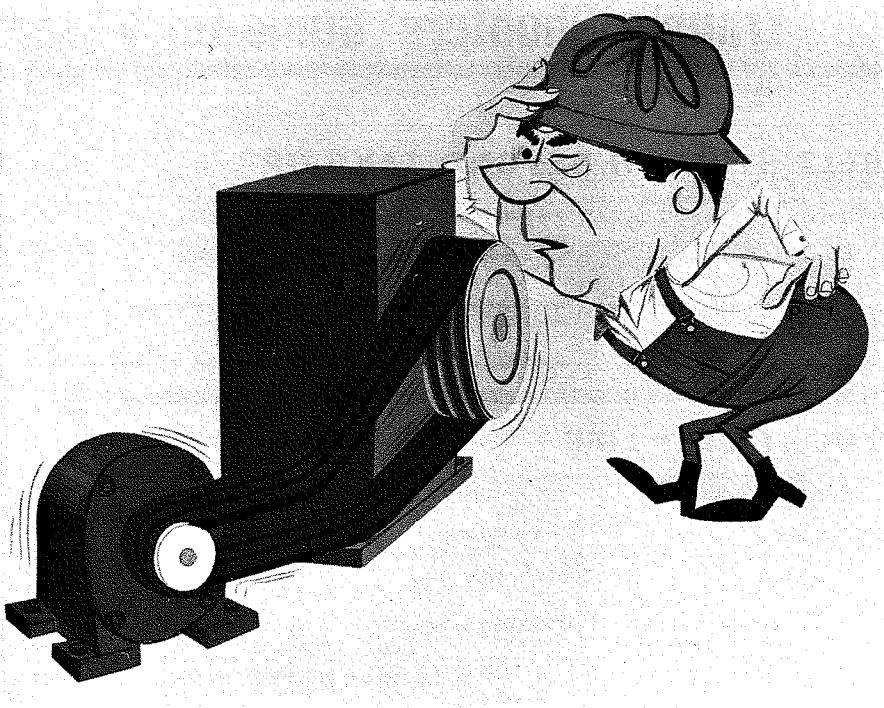

FIG. 3-19 (Gates Rubber Company)
7. Exact alignment of pulleys or sheaves is vital to belt life, pulley life, and bearing life (Fig. 3-19). Misalignment is the original cause of many seemingly unrelated machine problems.